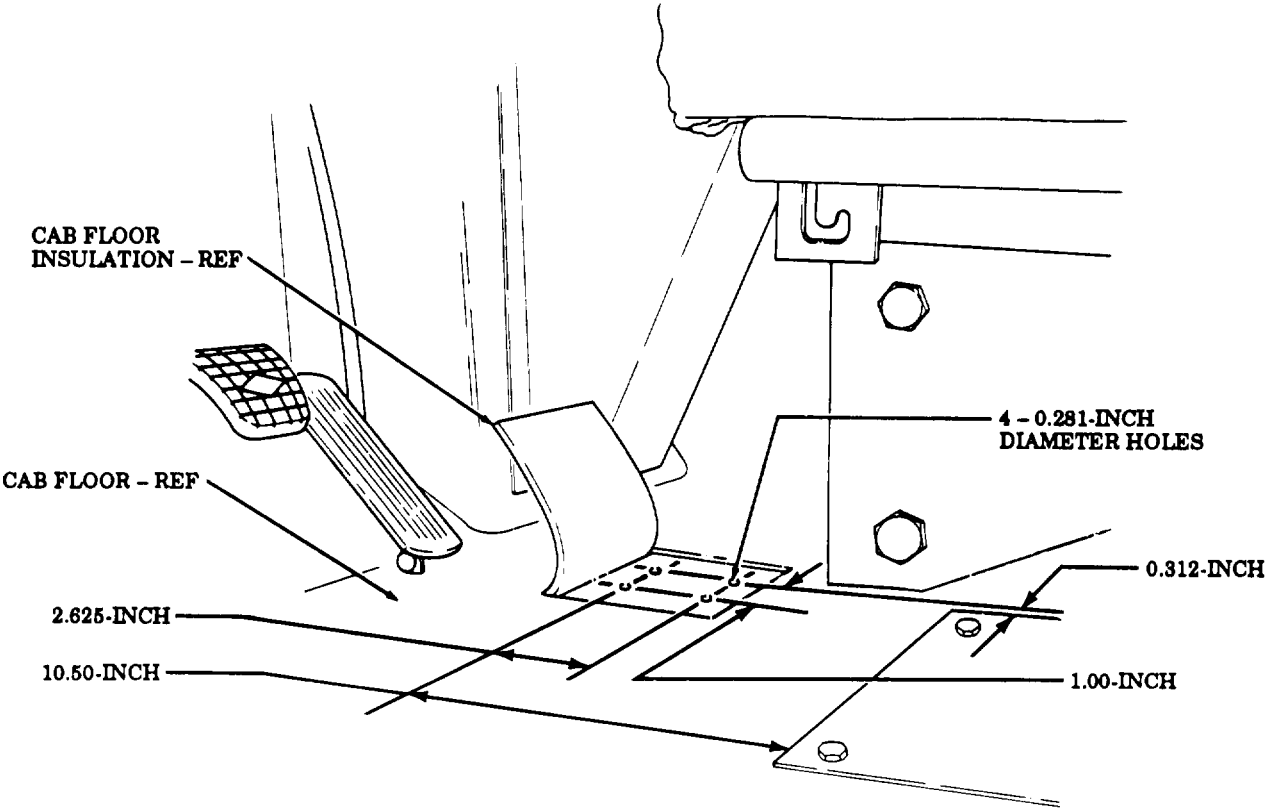

FIGURE 5
- (10) Fold back section of cab floor insulation, locate, mark, and drill four 0.281-inch diameter holes in cab floor as shown in figure 5.